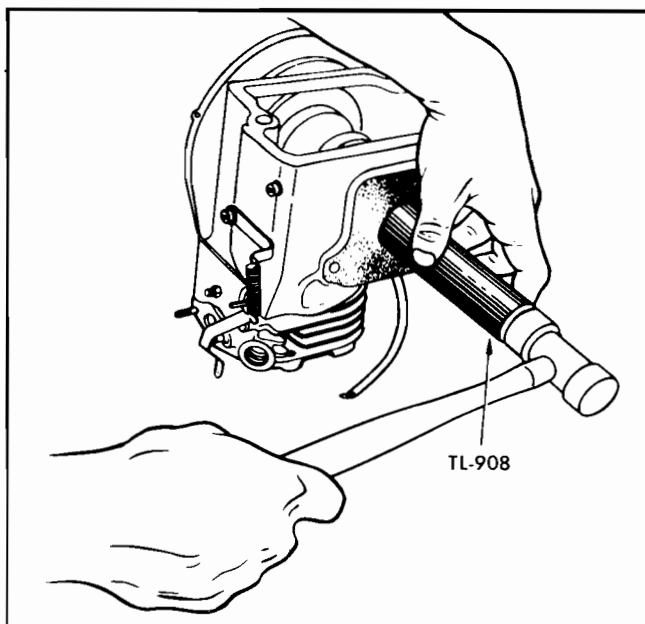

Figure No. 65—Installing Oil Seal
1. Slide the oil seal loader over the crankshaft to protect the oil seal as it is moved into position by the oil seal driver Part No. TL-908 or TL-909. (See Figure No. 65.)